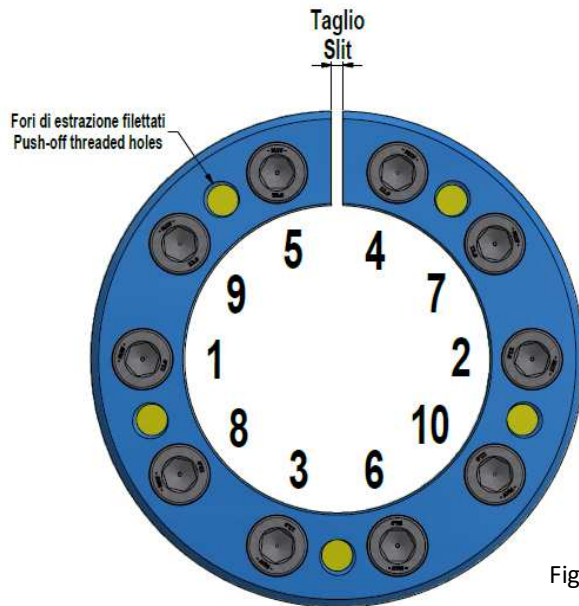

Fig. 3. Example of tightening pattern.
4. Tighten the screws by hand in a crosswise pattern, starting with a screw located at 90° approx. respect to slit (fig. 3), until fitting clearances with shaft and hub bore are bridged and connected components are slightly locked, while making sure that hub is aligned as required using a dial indicator. **Better centering of hub from the beginning of installation is essential for better centering when installation is completed.**
5. Use a torque wrench set approx. 5% higher than specified tightening torque (Ma), or reduced within admissible value. **Progressively tighten the screws in a crosswise pattern (fig. 3), using approx. ¼ turns for several passes until ¼ turns can no longer be achieved.** Start with a screw located at 90° approx. respect to slit; screws adjacent to slit shall be tightened in a row.